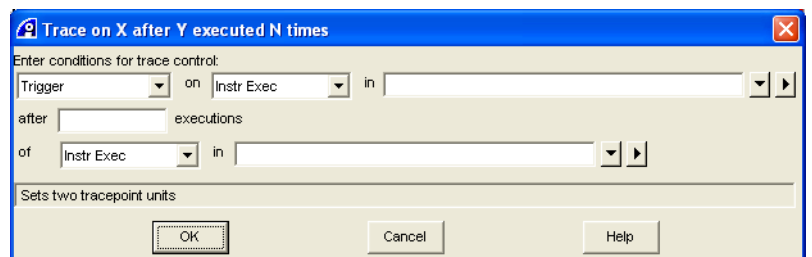

Figure 10-93 Trace on X after Y executed N times dialog box
2. Select **Debug** → **Tracepoints** → **Trace on X after Y executed N times...** from the Code window main menu to display the Trace on X after Y executed N times dialog box. Figure 10-93 shows an example: